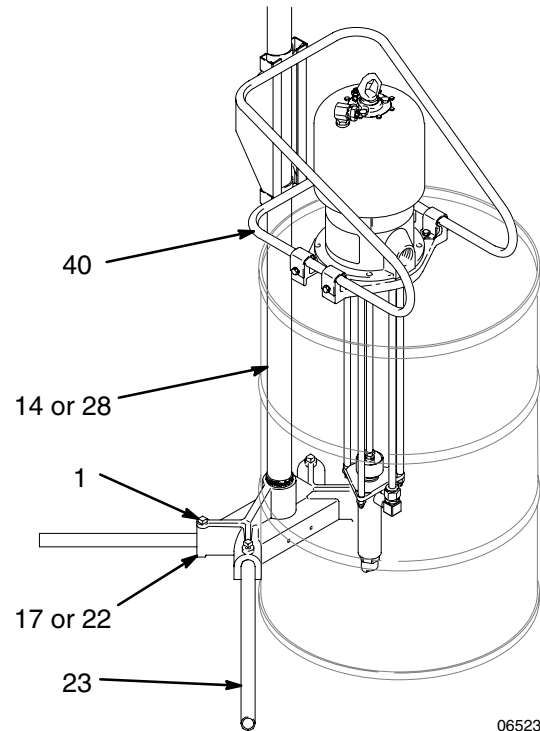
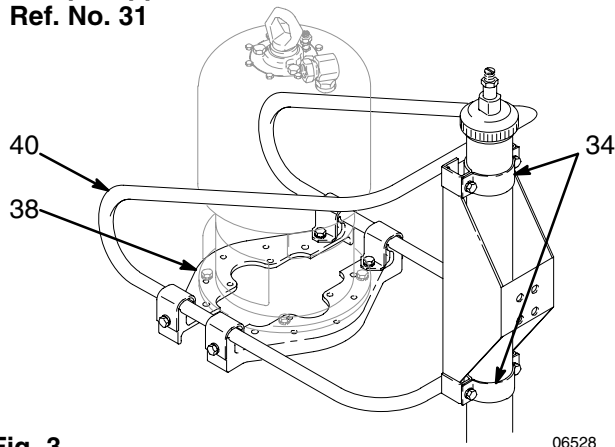

Fig. 1
Fig. 3
Locate the elevator where there is at least a 9 ft (2.75 m) overhead clearance. Install the four stabilizers (23) as shown in Fig. 1. Secure in place with the setscrews (1).
Set an open drum against the elevator base (17 or 22). Position the bracket (40) on top of the drum so that the clamp (34) recesses are tight against the elevator riser tube (14 or 28). See Fig. 1 and Fig. 3. Raise the riser tube up about 0.25 in. (6.4 mm), install the clamps (34) and tighten securely. Attach the pump mounting brackets (38).